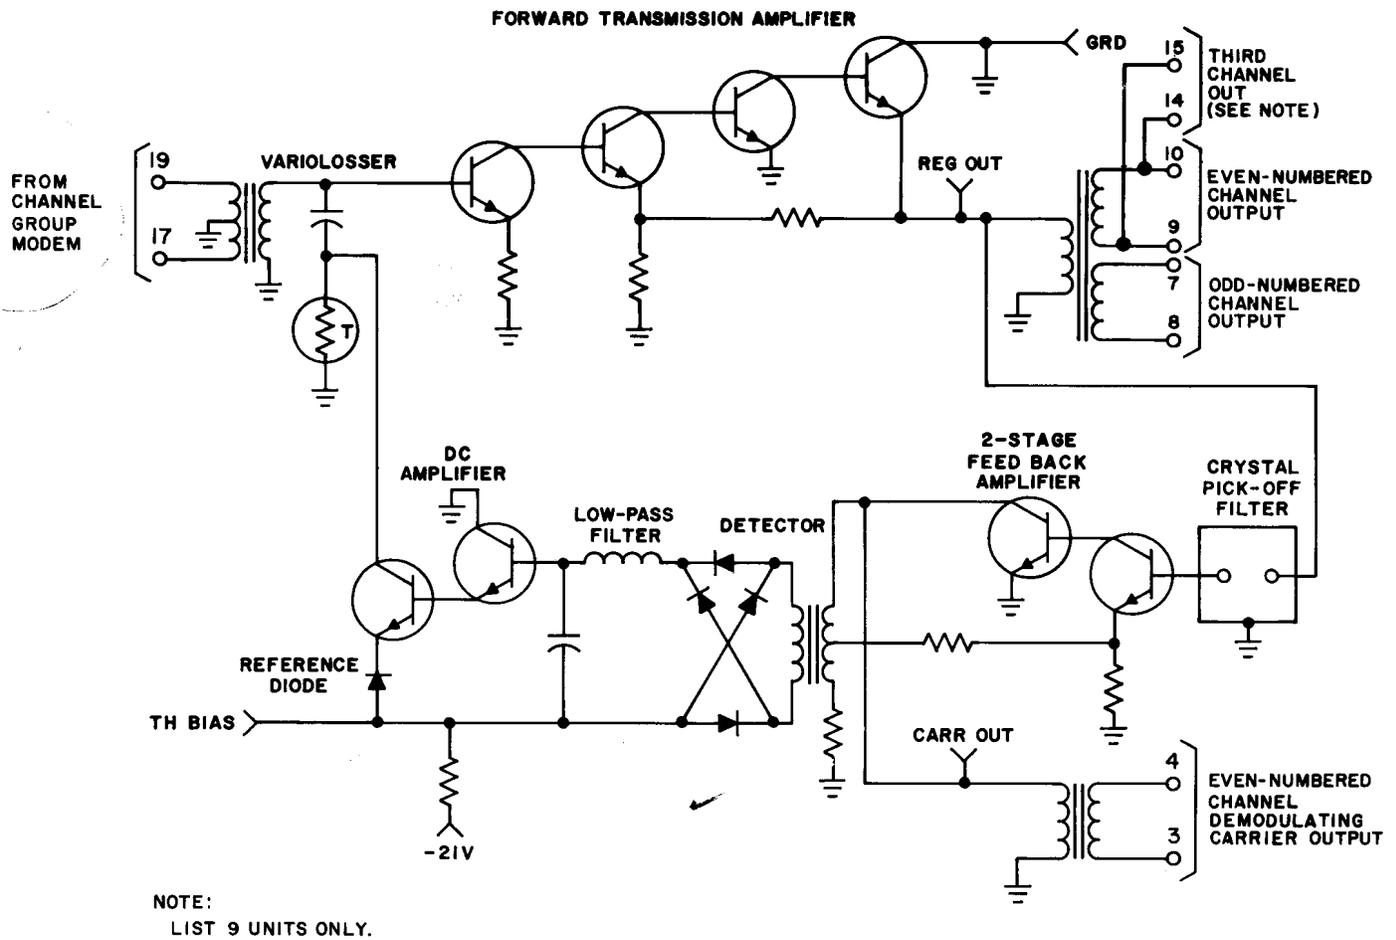
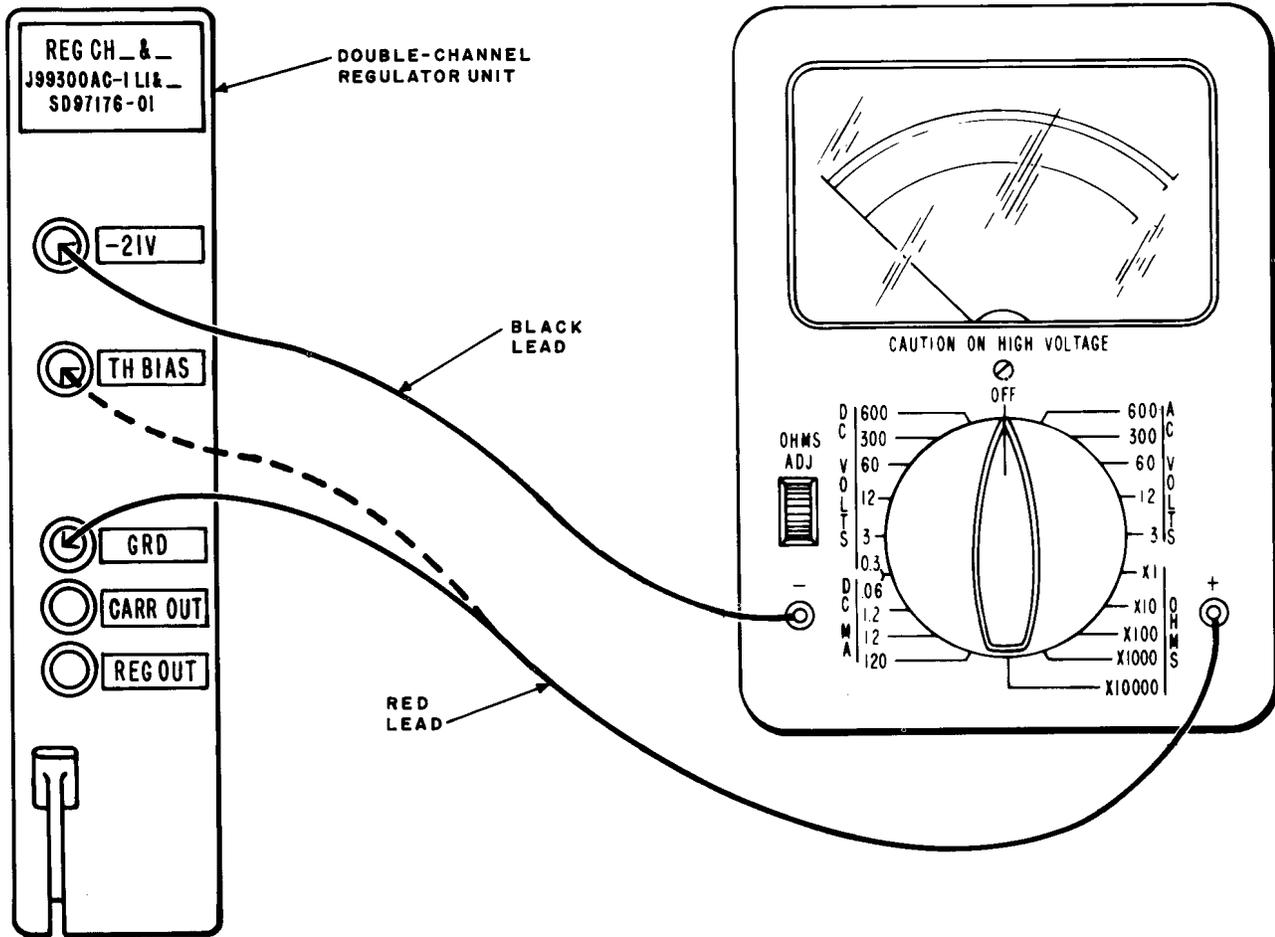

Fig. 1—J99300AC Double-Channel Regulator Showing Test Jacks
Fig. 2—Measure -21 Volts and TH BIAS Voltage
The purpose of this section is to provide in-service tests for determining the operating condition of the J99300AC double-channel regulator unit. These tests consist of measuring the dc and thermistor bias voltages (Test A) and the output carrier and demodulating carrier levels (Test B). Figure 1 shows the circuit locations of test jacks in the regulator circuit, and Fig. 2, 3, and 4 show the test arrangements.
- 2 Connect the red test lead (+) to the GRD jack and the black test lead (-) to the -21V jack of the double-channel regulator under test. (See Fig. 2.)